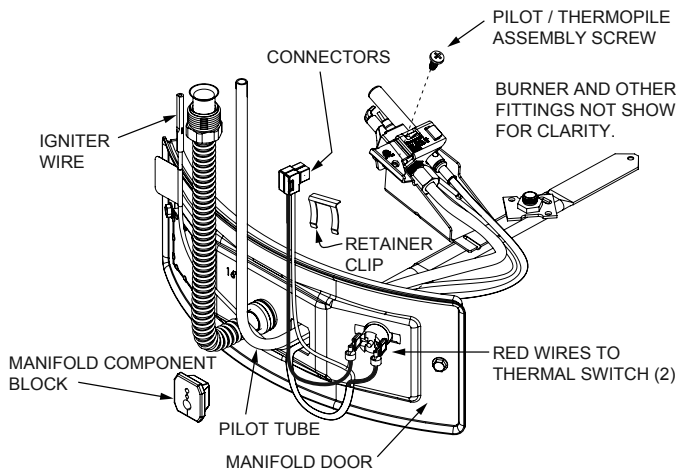

FIGURE 31.
3. Remove the screw securing the pilot/thermopile assembly to the pilot bracket and keep for reuse later (Figure 31).
4. Lift the retainer clip straight up from the back of the manifold component block (using a flat-blade screwdriver), then remove the manifold component block from the manifold door (Figure 31). **IMPORTANT:** Be careful not to bend or alter the position of the pilot tube. It will be used as a bending template for the new pilot assembly. Note the placement/order of the wires in the manifold component block.
7. Route the new pilot tube and wires through the opening in the manifold door. See Figure 31.